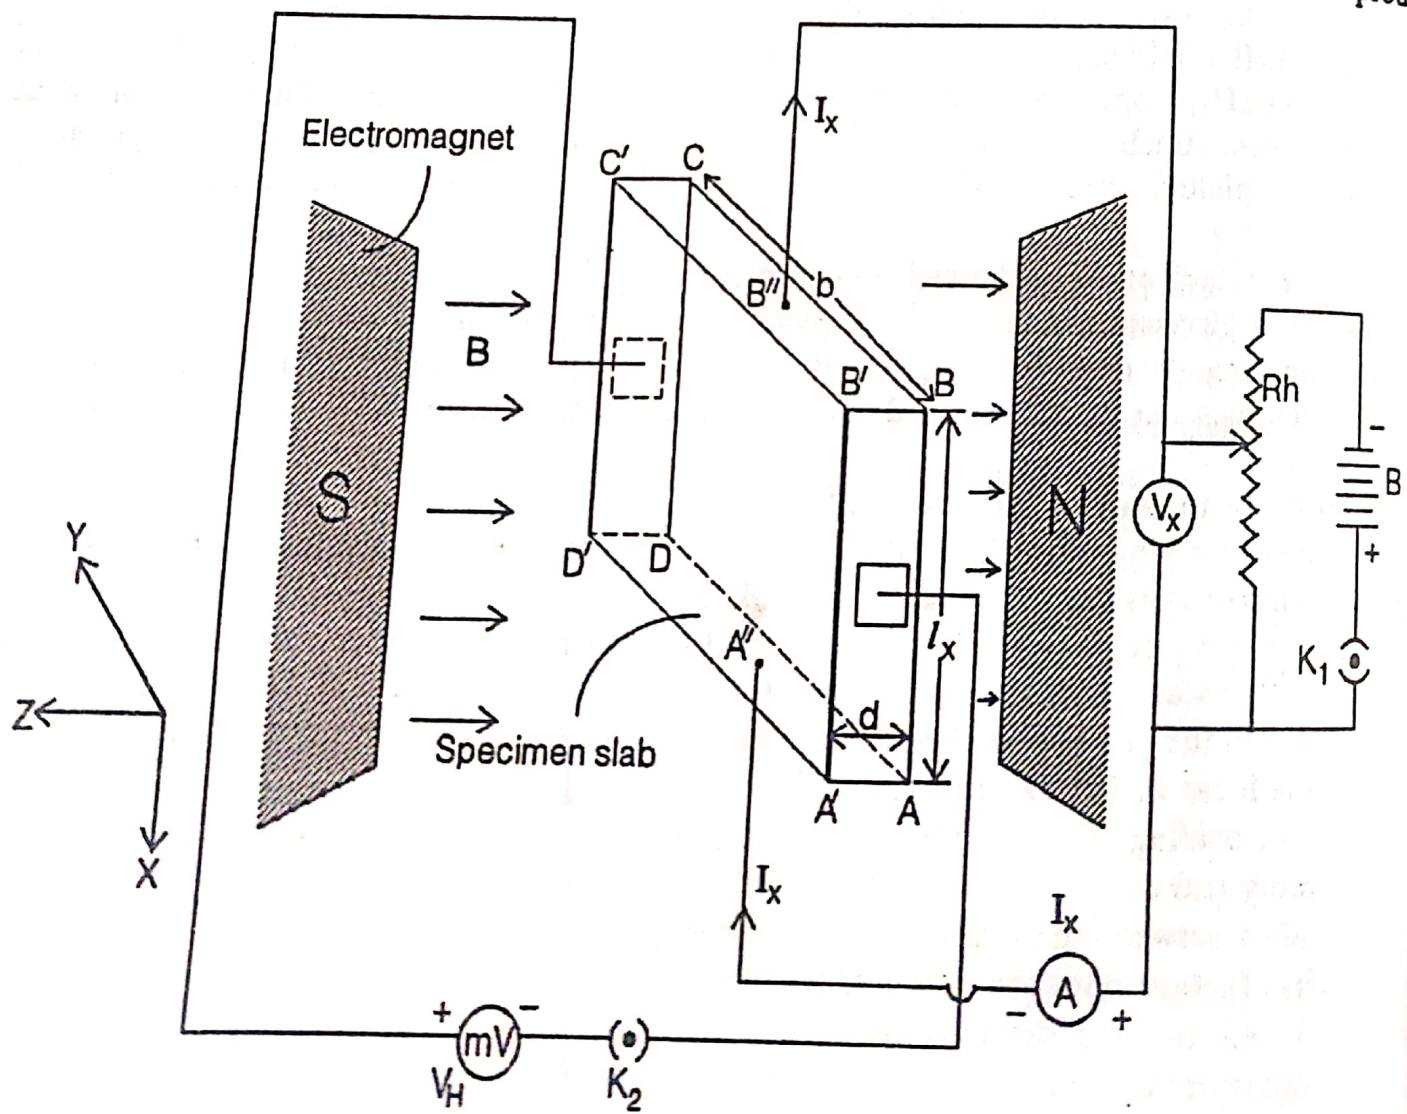

Fig. 12.1
**Description of the Apparatus and Circuit :** A schematic diagram of the apparatus and their associated circuit is shown in fig. 12.1. The rectangular slab of semiconductor crystal (N-type) of dimensions about  $7 \text{ mm} \times 2 \text{ mm} \times 0.2 \text{ mm}$  is placed between the pole pieces of a strong electromagnet capable of producing
magnetic field of the order of  $10^3 - 10^4$  gauss. A battery in series with a key  $K_1$  is connected across the fixed terminals of the rheostat  $R_h$  used as a potential divider. The voltmeter  $V$  of the potential divider in series with an ammeter  $A$  is connected across the length of the specimen slab for measuring the applied voltage  $V_x$  and the current  $I_x$  passing in  $X$ -direction through it. To measure the Hall Voltage  $V_H$  along  $Y$ -axis, a millivoltmeter in series with a plug key  $K_2$  is connected as shown in fig. 12.1.
1. Connect each component of the apparatus in according to the circuit diagram shown in fig. 12.1.